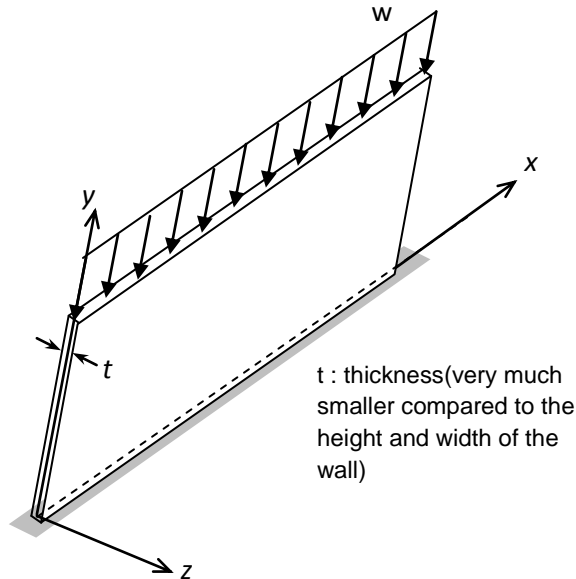
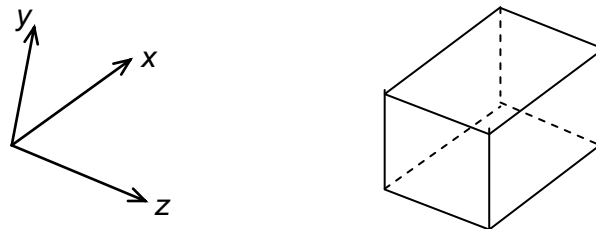

Figure 3
Figure 4
- (b) Figure 3 shows a thin wall structure loaded with a uniformly distributed load w in y -direction. Justify why this problem can be solved as a plane stress problem.
Figure 4 shows an infinitesimal volume taken from the interior of the wall shown in Figure 3. Indicate on the infinitesimal volume the non-zero stress components.